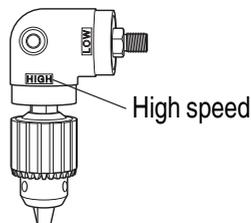

Fig. 10
- To operate the angle unit at high speed, attach the chuck to the angle unit spindle at the side marked “HIGH” and secure the locking screw. At this setting, the drilling speed is increased to about 150% and the drilling torque decreased to about 70%. (Fig. 10)